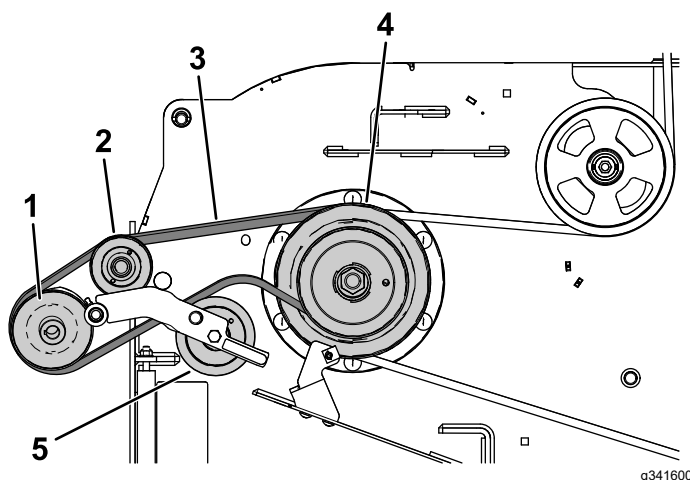

Figure 29
1. Arrange the blower belt around the drive pulley as shown in Figure 29.